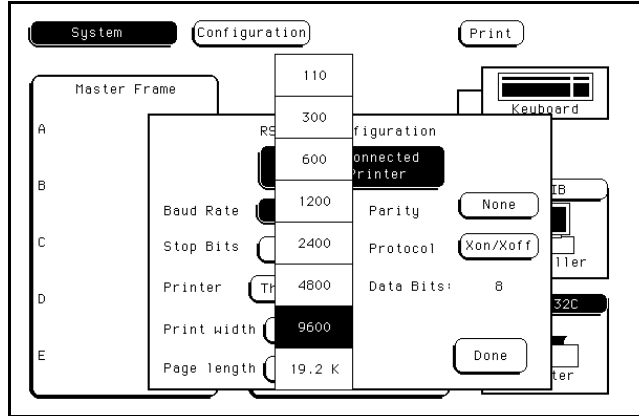

Figure 2-10. Baud Rate Pop-Up Menu
3. Touch the **Baud Rate** field, then select the required rate. See figure 2-10. Make any other changes to the RS-232C configuration while you are in this menu.